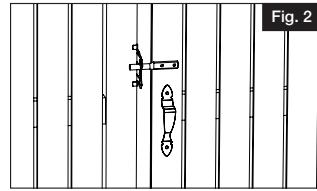

Fig. 2
- a. With gate closed, align latch on post at desired height, center striker on upright and determine gate handle location on upright (Fig. 2).